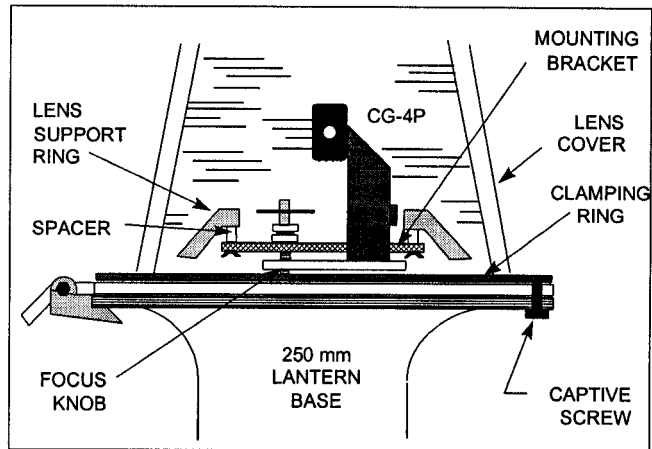

Figure 2-8
- a. Loosen all screws on the lens cover clamping ring. See Figure 2-8.